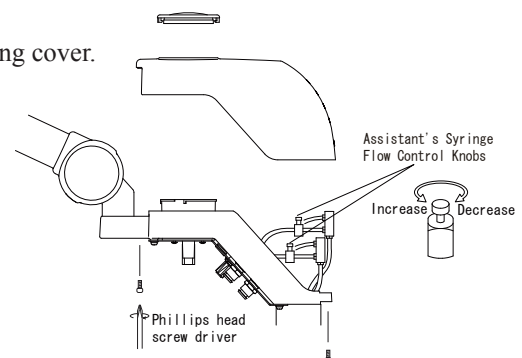

Fig.3-2-2 Assistant's Syringe Control Knob
(4) Assistant's Syringe Control Knobs(Fig.3-2-2)